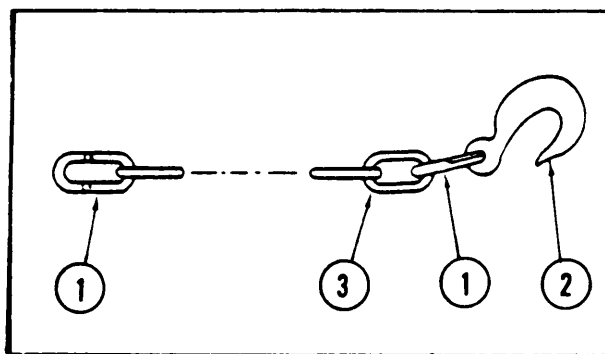

Figure 2-17. Trailer Safety Chain and Hook Assembly (ARMY)
- a. Removal. Remove nut (1), screw (2) and chain and latch shackle (3) securing chain assembly (4) to trailer frame (5). Remove chain assembly (4).
- b. Disassembly. (Figure 2-17) Remove connecting chain links (1) and hook (2) from welded chain (3).
- d. Assembly. (Figure 2-17) Install hook (2) and connecting chain links (1) on welded chain (3).